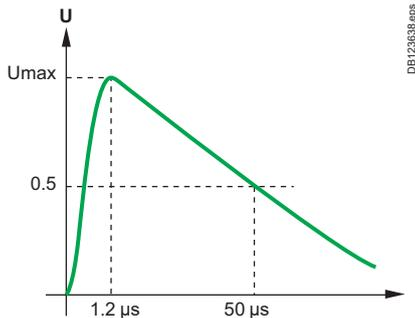
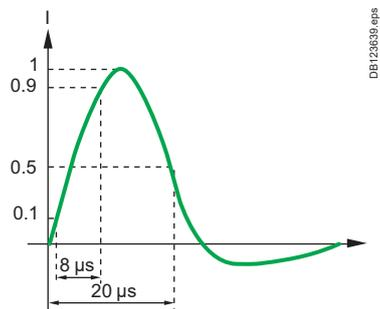

Fig. 2: normalized voltage waveform 1.2/50 μ s
Fig. 4: normalized current waveform 8/20 μ s
- lightning strikes: these voltage surges are represented normatively by a 1.2/50 μ s voltage waveform (Fig. 2). The currents induced in the lines by these voltage surges are represented by a normalized 8/20 μ s waveform (Fig. 4)